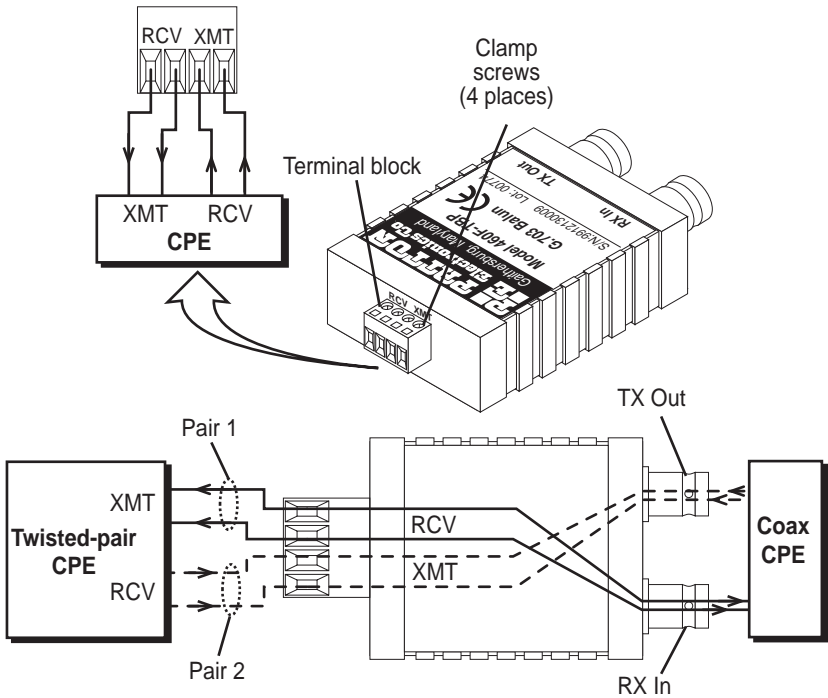

Figure 4. Model 460-TBP terminal block interface wiring diagram
3. Connect one pair of wires to the two XMT (transmit) positions on the terminal block. The Model 460-TBP is not polarity sensitive so either wire may connect to either pole. See Figure 4.